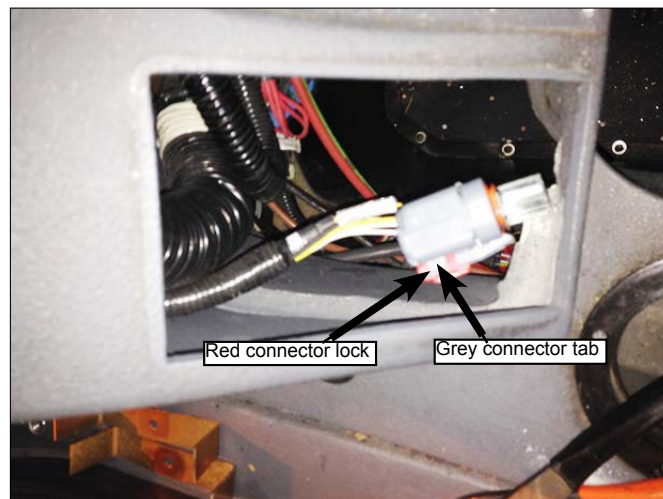

Figure 26 - Connect Shift Selector
- 1.27. The shift selector can now be reconnected, ensuring that the red safety tab is installed on the connector (see Figure 26).